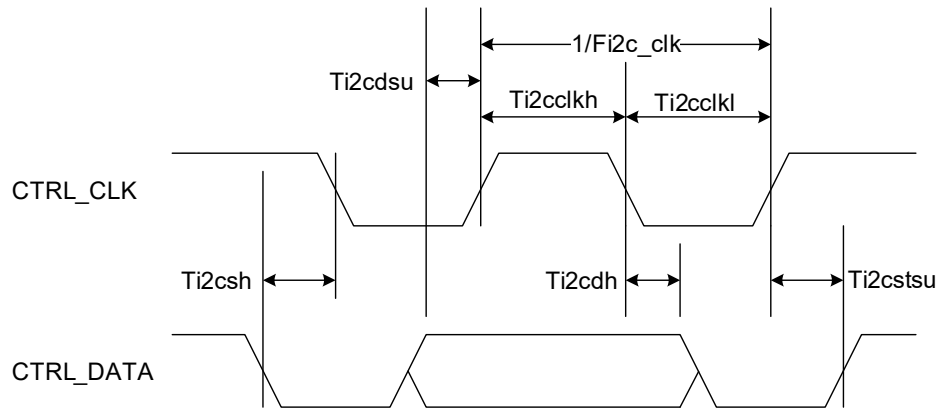

Figure 5. I²C Timing (CTRL\_MODE == 0)
I2C BUS TIMING(3) See <a href="#">Figure 5</a> .